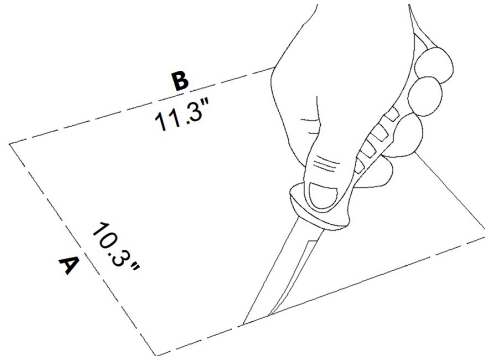

Fig.1.
2. Cut an opening measuring 11.3 inches x 10.3 inches at the selected location. (See the Fig.1.)